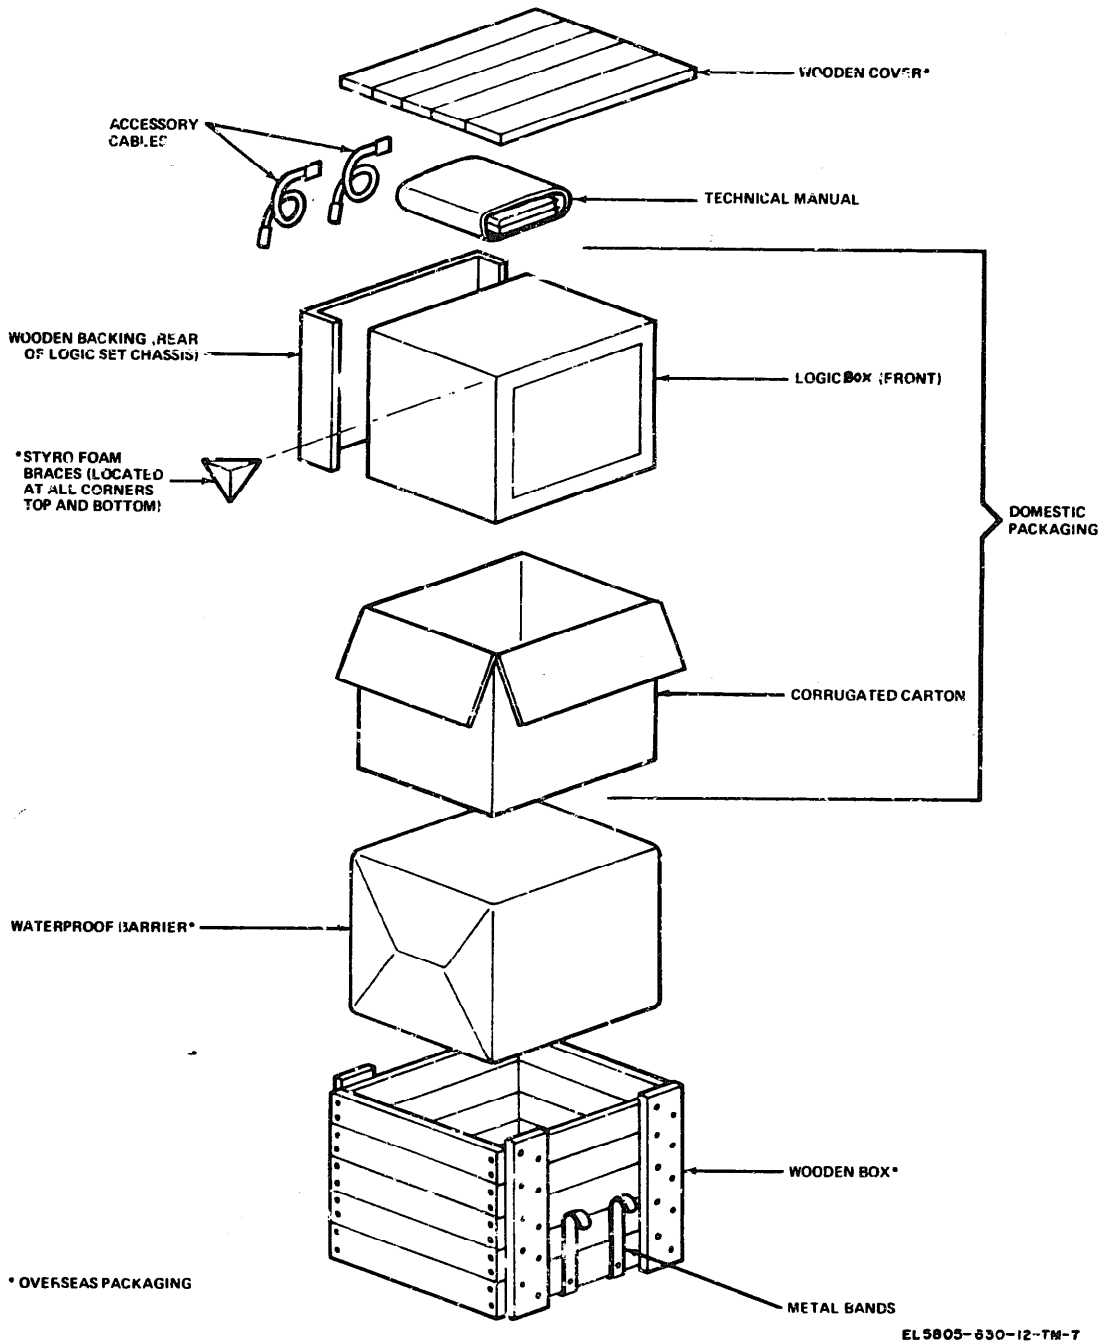

Figure 2-1 Packaging diagram for Call Director System Logic Set CD-134-43A or CD-134-43B
*a.* The equipment as shipped has been preserved and adequately packaged in accordance with level C of Military Specification MIL-P-116, with repair parts and accessories packed in accordance with level A of above referenced specification. Interior and exterior shipping containers have been marked and stamped in accordance with Military Standard 129. Packing material consists of cellulosic cushioning material per federal specification PPC-843, fiberboard material per PPB-636 and flexible water vaporproof barrier material per military specification MIL-B-131. (Refer to figure 2-1 and 2-2.)